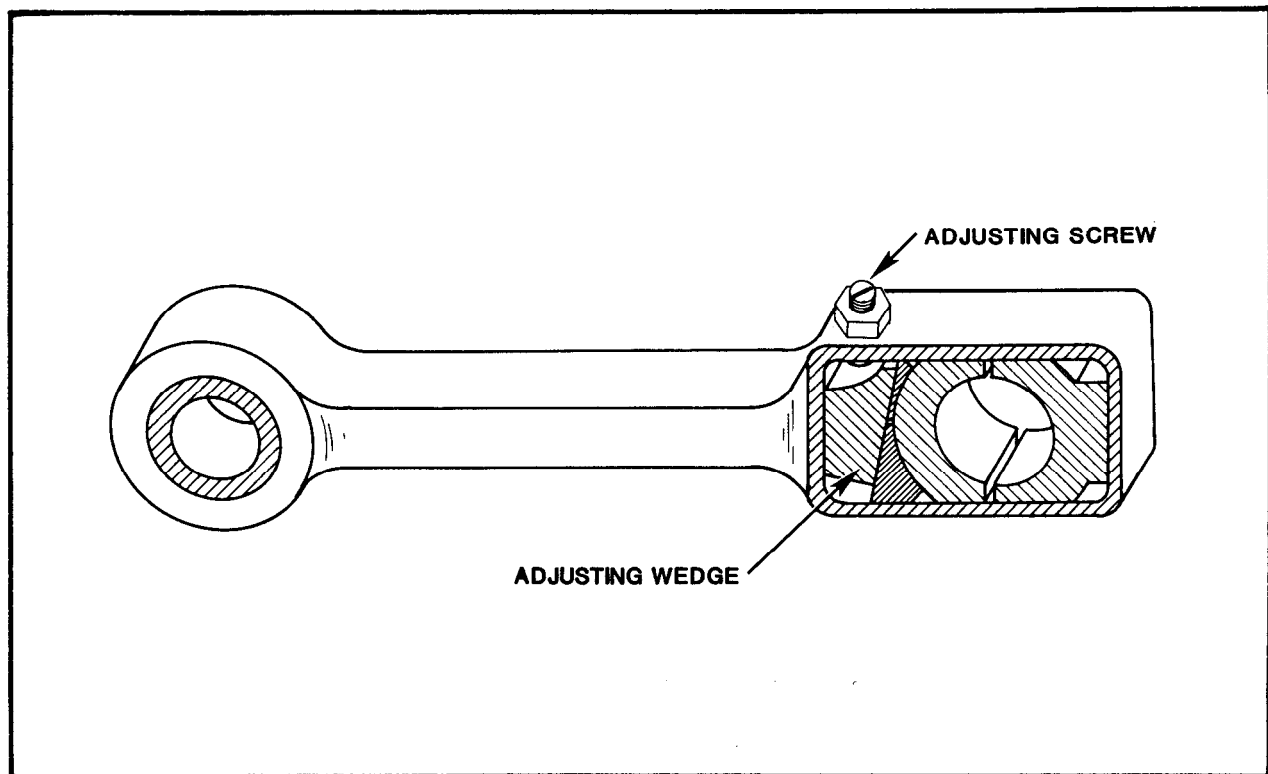

FIGURE 2-3. Connecting Rod With Wedge Adjusting Bearings
8.6.1 Horizontal Compressor Bearings. Many horizontal compressors have wedge adjusting crosshead and crankpin bearings (figure 2-3). Adjustment is made by tightening or loosening the adjusting screws. Do not overtighten the bearings. A tight fit at the crosshead bearing causes the crosshead to rock, damaging the crosshead guides and shoes.